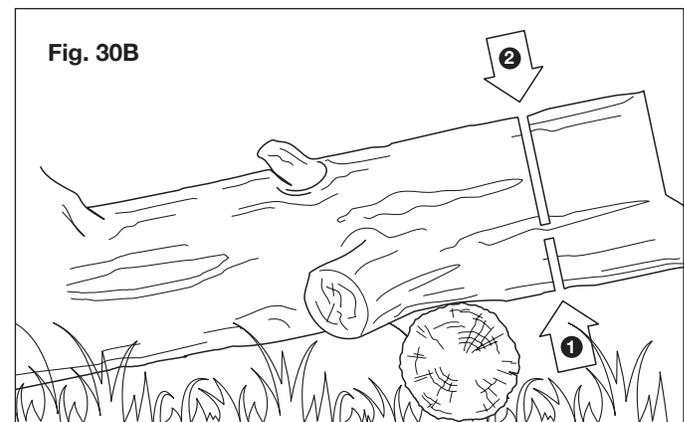

Fig. 30B
- When the log is supported on one end (Fig. 30B), cut 1/3 the diameter from the underside (underbuck). Then make the finishing cut by overbucking to meet the first cut.